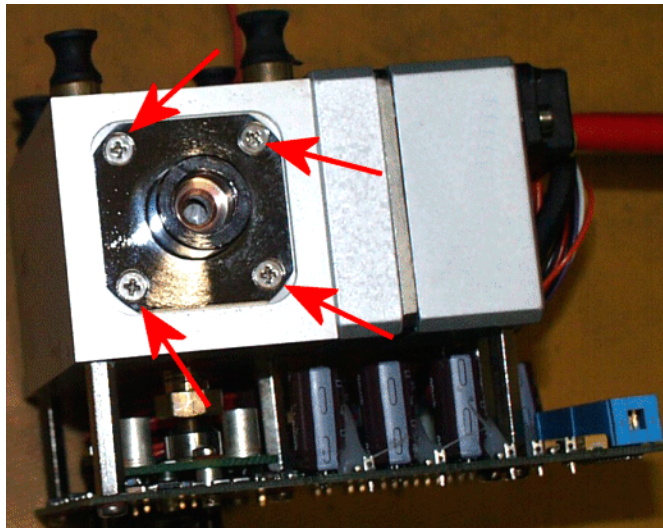

Figure 15 Removing the NIST connector mount
19. Remove the NIST connector mount screws (Figure 15).